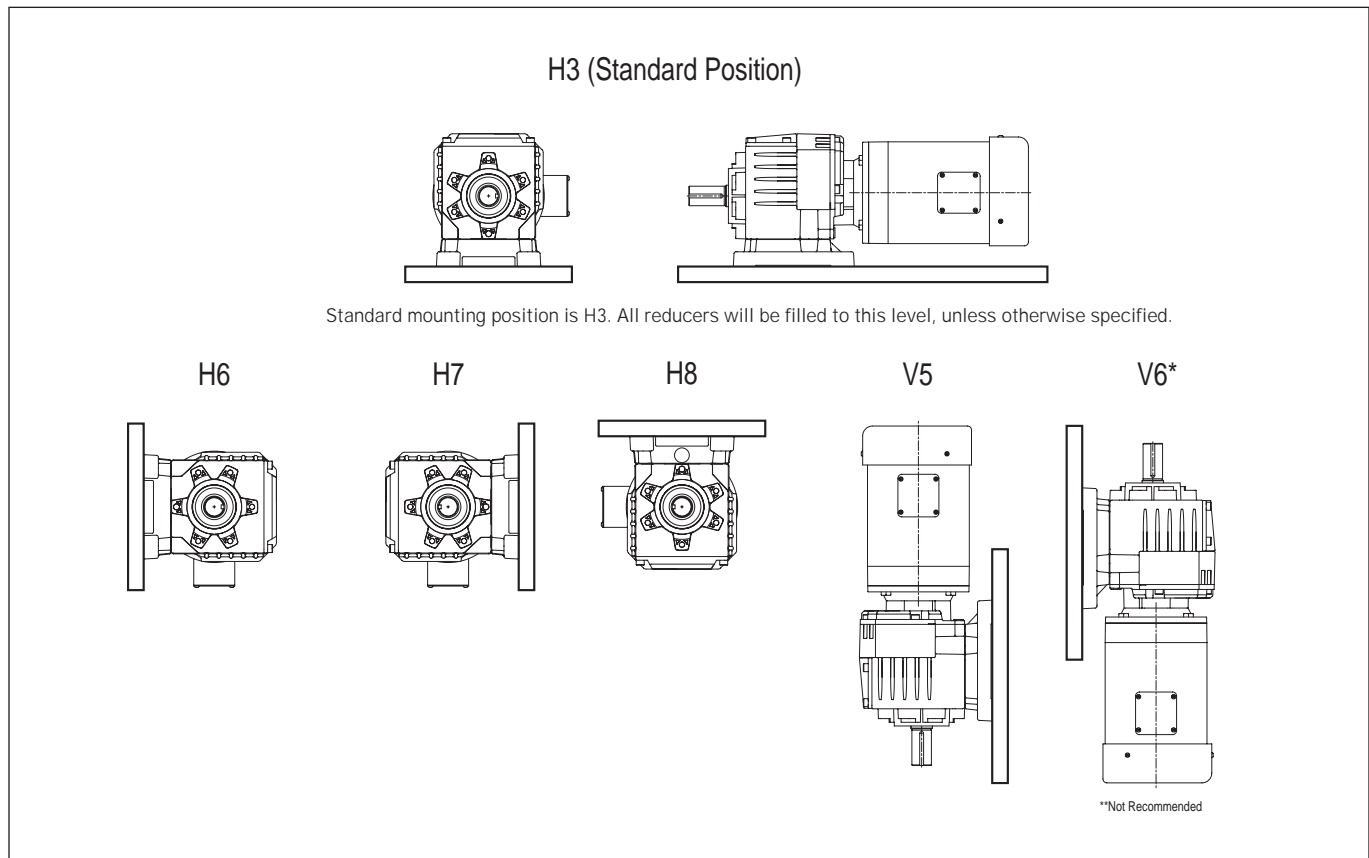

Figure 1 - Reducer Mounting Positions
2. LeCentric™ reducers are filled with proper amount of oil from Grove Gear. Oil quantity is based on mounting position, as indicated on reducer nameplate. Unless otherwise indicated with order, all reducers are filled to level indicated for position H3. If position other than the one indicated on nameplate is required, refer to Figure 1 for alternate mounting positions and Table 1 for oil quantities.
CAUTION Do not operate the reducer without making sure it contains the correct amount of oil. Confirm that mounting position on nameplate matches application requirement per Figure 1. Do not overfill or underfill with oil, or injury to personnel, reducer or other equipment may result.
ALL standard reducers ordered from Factory are filled with Mobil Glygoyle 460 Polyglycol (PAG) lubricant or equivalent suitable continuous duty option with a -10°F to 120°F ambient temperature range. Lubrication quantities are specified in Table 1 for various mounting positions. Prior to startup, verify that the mounting position on nameplate matches required position (see Fig. 1). LeCentric™ reducers are filled to proper amount of oil based on mounting position printed on nameplate. **All LeCentric™ Gear Reducers will be filled with oil for position “H3” unless otherwise specified.** If the ambient temperature will be outside the range for the lubricant installed at the factory, drain and refill the reducer with the proper viscosity lubricant prior to use. Consult the Factory for alternate lubricants.
LeCentric™ reducers are lubed-for-life and do not require regularly scheduled oil changes/checks. However, if the reducer is used in a severe environment, it is recommended that the oil is checked or changed every 6000 hrs. or after 2 years of operation. If the oil level is low, (refer to Figure 1 for mounting positions) add proper lubrication through the filler plug.